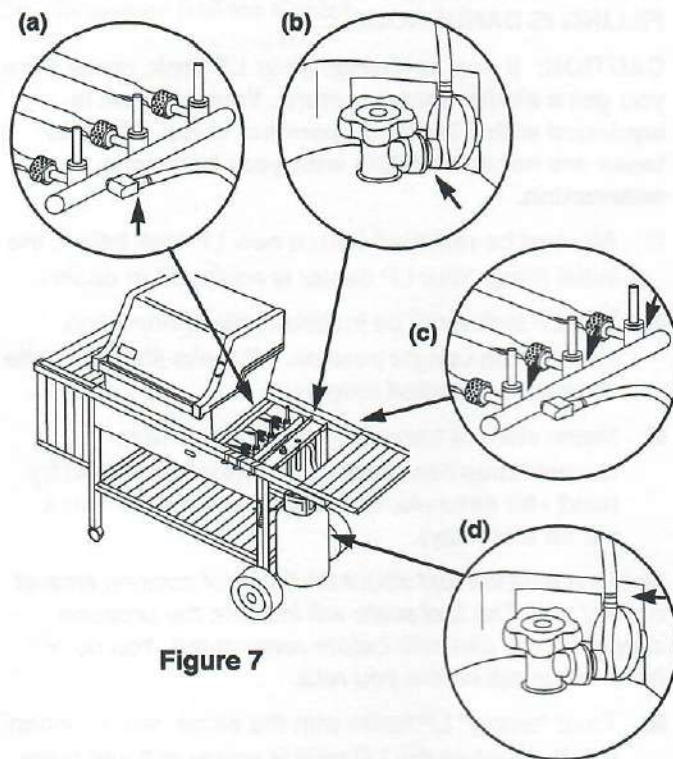

Figure 7
a) Hose to manifold connections. Figure 7 (a).
b) Regulator to tank connection. Figure 7 (b).
c) Valves to manifold connection. Figure 7 (c).
d) Hose to regulator connection. Figure 7 (d).